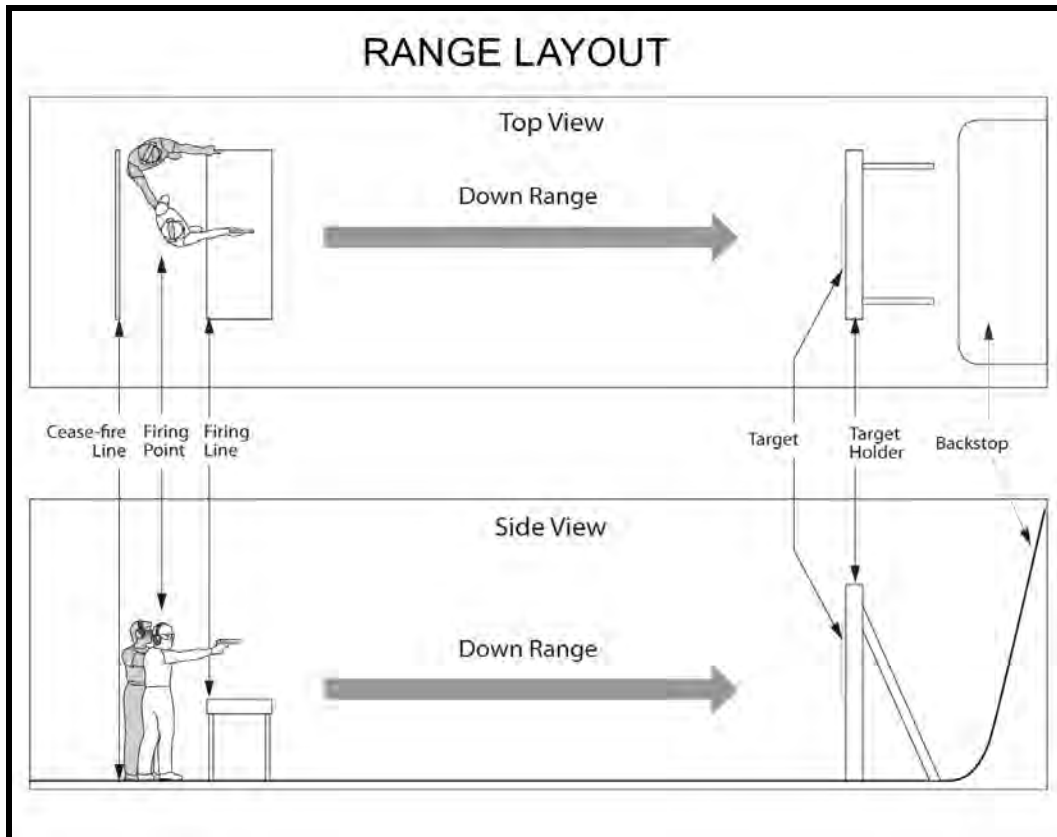

Figure 129. Range layout with direct supervision
- During a cease-fire, no one will handle firearms or ammunition or return to the firing line. At this point, wait for further range commands before any further activity. Persons not engaged in changing targets down range should stand well behind the cease-fire line (Figure 129).